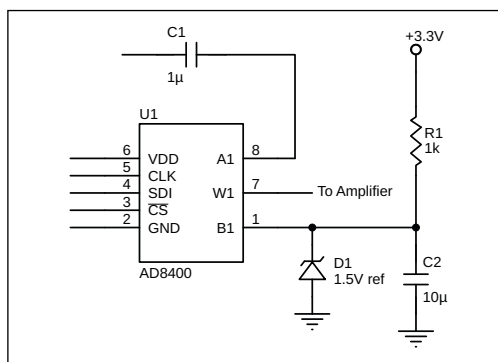

FIGURE 6
Figure 6 shows how you might solve that problem using a digital potentiometer. Instead of connecting the lower resistor terminal to ground, it is instead connected to a 1.5 V reference diode. A 10 μ F capacitor bypasses the reference, so that the lower terminal is effectively at ground for AC signals. The net result is that the upper terminal is at 1.5 V with no signal applied.
The circuit in Figure 6 fixes the issue of the AC signal driving below ground, but we're not out of the woods yet. The amplitude of the input signal has to be below 3 V peak-to-peak (PP). If the input is driven with a 4 V_{pp} signal, the peaks will drive the upper terminal beyond the supply rails. The moral of the story is to be sure that the terminal pins not
The circuit in Figure 6 is relevant to another problem—for a mechanical potentiometer, the three terminals can effectively be isolated from